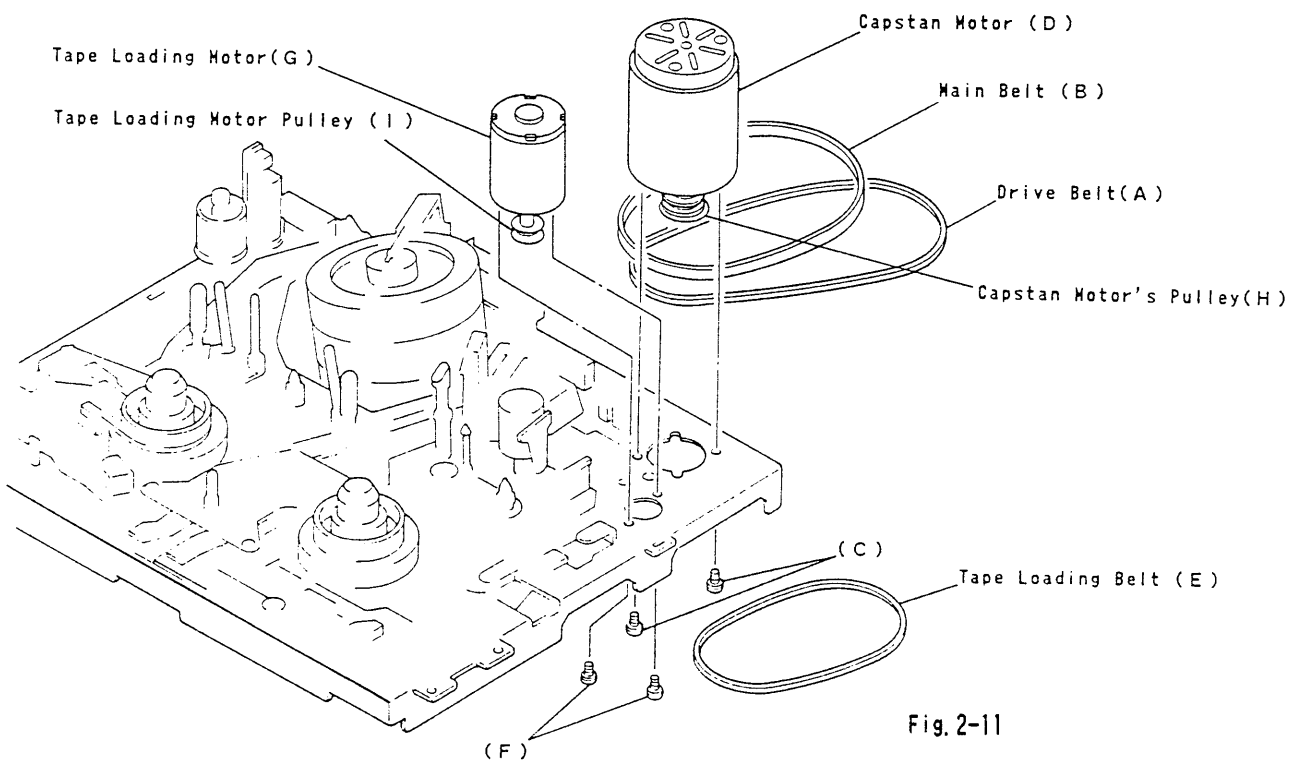

Fig. 2-11
(11) Capstan Motor / Tape Loading Motor (Fig. 2-11)